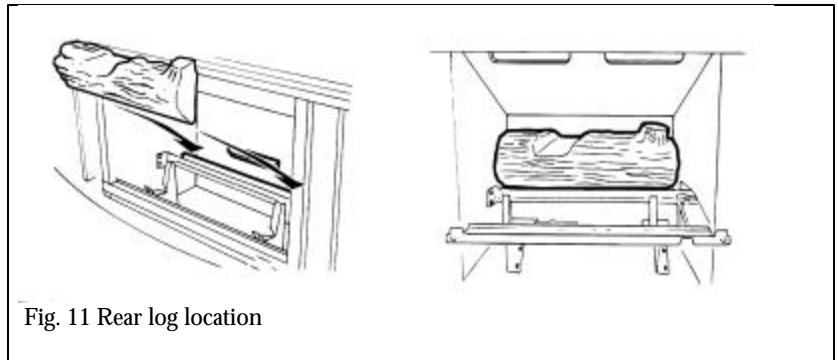

Fig. 11 Rear log location
8.1 Place the rear log (the log with only one short stub) in the retaining cradle behind the rear burner tube with its back against the firebox back wall (fig. 11). The short stub should be at the top right of the log. Center the log so that the gap to the firebox walls is the same at each side.